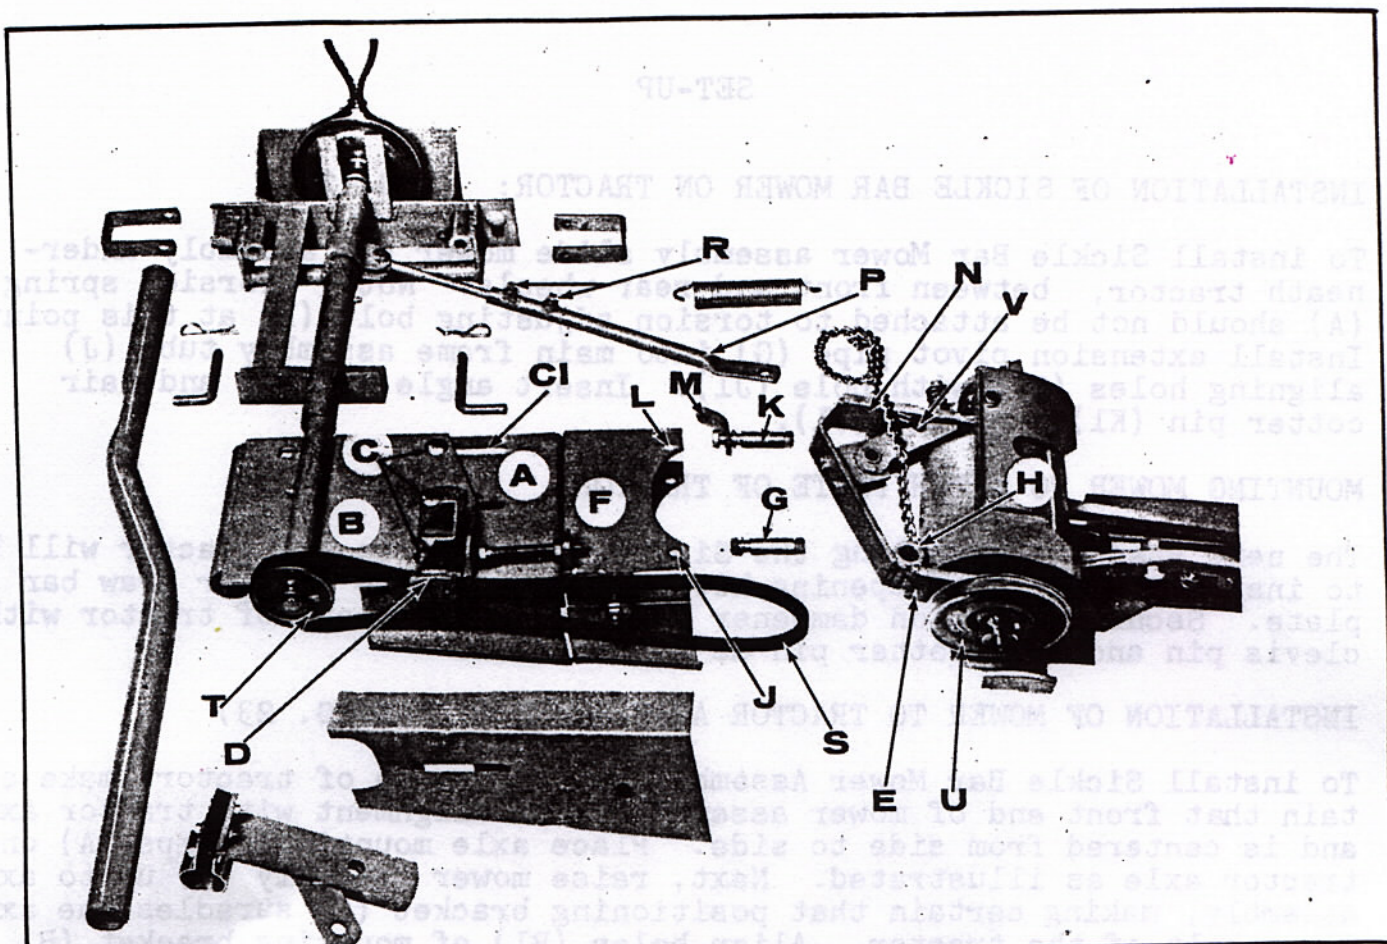

Fig. 21
## SICKLE BAR ASSEMBLY (FIGURE 21)
Place the carriage plate assembly (A) with the (3) slotted holes beneath the main frame support (B) as shown in Figure 21. Attach carriage plate (A) and belt guard bracket (D) onto plate (B) with (3) 1/2" x 1-1/2" carriage bolts. Secure bolts with (3) 1/2" hex nuts and lock washers as furnished. Leave bolts slightly loose at this point.